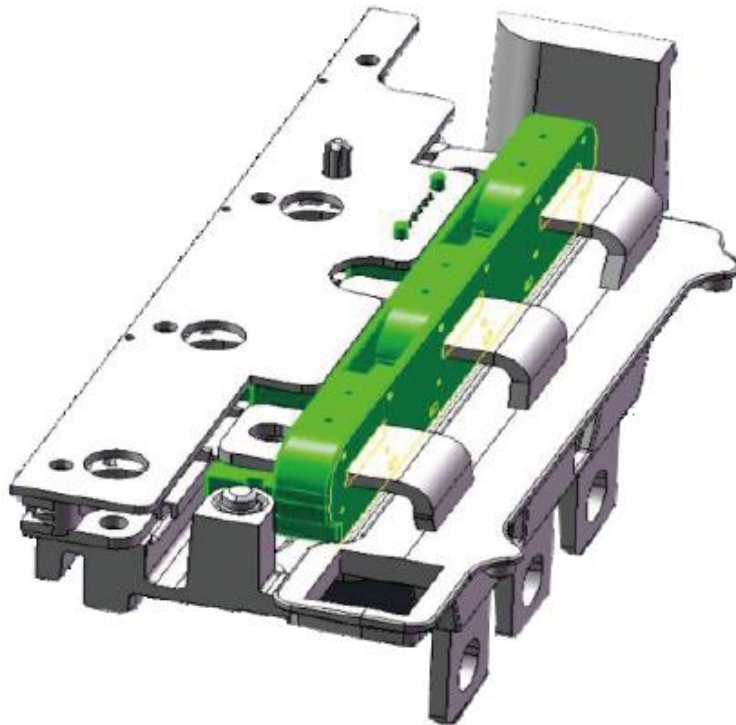

Figure 6 Schematic diagram of sensor mounting structure
1. Primary Current: The primary current is installed on the driver board by inserting it through holes 1, 2, and 3 in the direction of the arrows marked on the case. Refer to Fig. 6 for installation details.
The terminal of the sensor of this model is connected to the driver circuit board of the device using the pin terminal of the automobile eyelet with a pitch of 2.54mm and $\Phi 0.64\text{mm}$. The current to be measured is routed through the holes of the sensor and fixed to the user device through the screw holes at the top of the sensor housing, as shown in Fig. 6 in green. The green part is the CYHCS-B31S three-phase Hall current sensor.